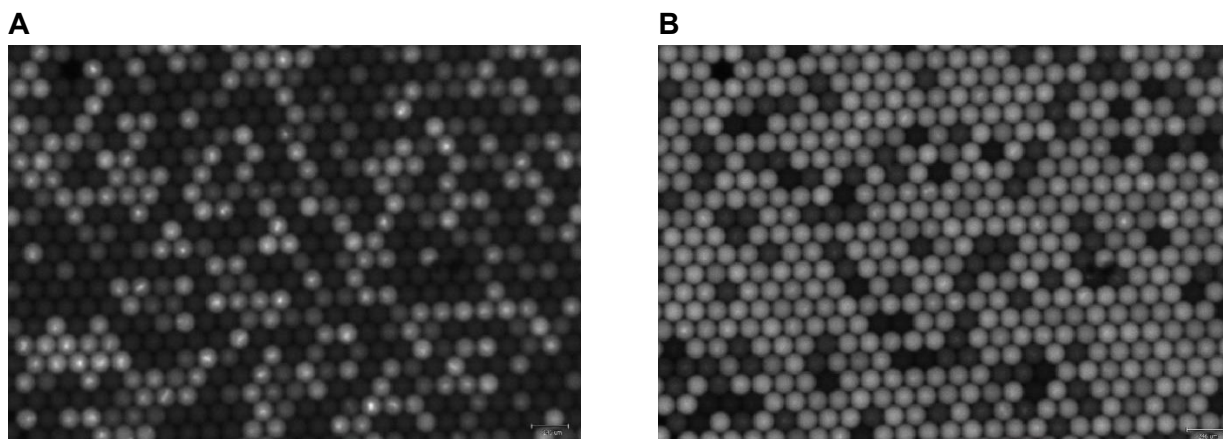

Figure 4. Example of (A) fluorescent aggregates and (B) subtle fluorescent aggregates in the Droplet Crystal
**Note:** The average separability scores of the targets detected green and infra-red channels are sensitive to the presence of Droplet Crystal observations, in particular to the presence of fluorescence aggregates (Figure 4). The Analysis Template will display “Check for the presence of Droplet Crystal observations” when average separability scores of these targets are close to the acceptance criteria limit.